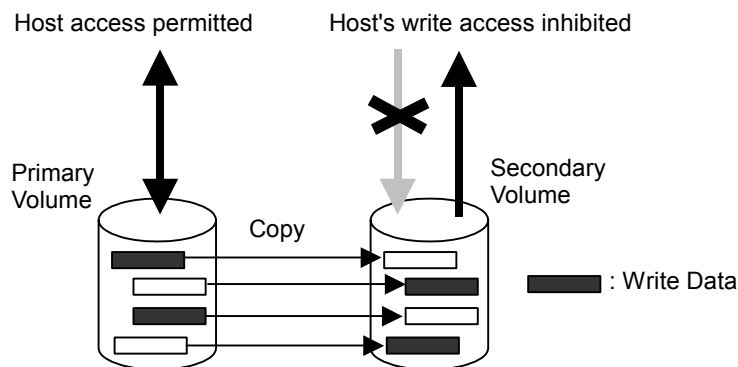

Figure 2.3 Normal Pairresync Operation
- **Normal.** The normal **pairresync** operation (see Figure 2.3) resynchronizes the S-VOL with the P-VOL. The copy direction for a normal **pairresync** operation is P-VOL to S-VOL. The pair status during a normal resync operation is COPY(RS). The S-VOL becomes inaccessible to all hosts for write operations, and the P-VOL remains accessible to all hosts for both read and write operations during a normal **pairresync**. The normal **pairresync** operation can be executed for pairs with the status PSUS and PSUE.